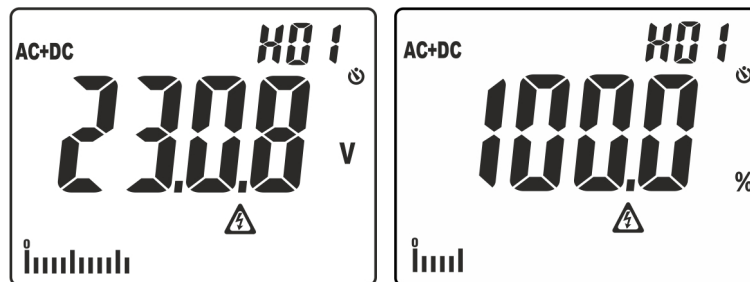

Fig. 3: Display of amplitude of harmonic analysis
- Simple pressing of the key to display the amplitude of voltage and current harmonics up to the 25th (**Hdc**, **H01... H25**) in absolute or percentage format in relationship with the fundamentals of input signals (for voltage values $V_{AC} > 0.5V$ and current values $AC > 0.5A$ and frequency in the range $42.5Hz \div 69Hz$) and the percentage value of parameter **THD%** (see § 9.3) as shown in Fig. 3. Use keys $\blacktriangle/ZERO$ and $\blacktriangledown/\text{I}$ to increase/decrease the order of the harmonic.